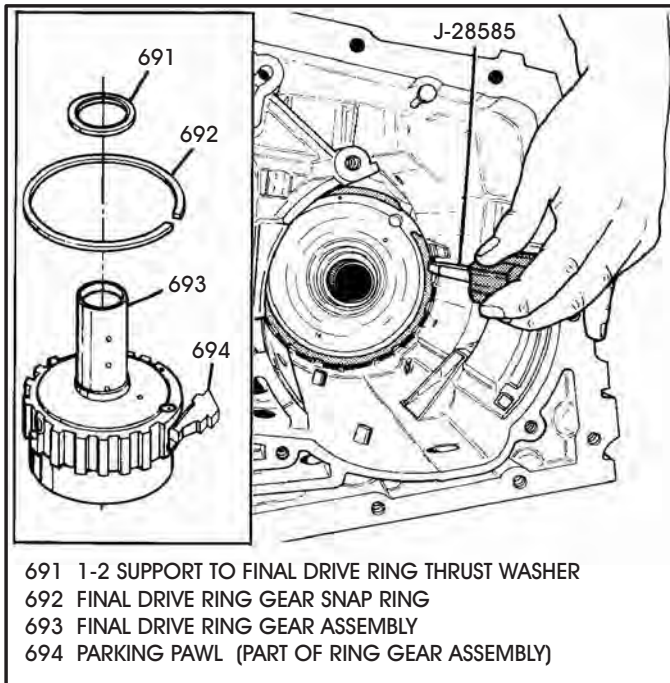

Figure 73
56. Using the snap-ring screwdriver, as shown in Figure 73, remove the final drive ring gear snap ring from the case.
57. Remove the final drive ring gear from the case by lifting straight up (See Figure 73).
58. The thrust washer shown in Figure 73 may be a thrust bearing. The bearing was replaced by the washer in 1994 models.